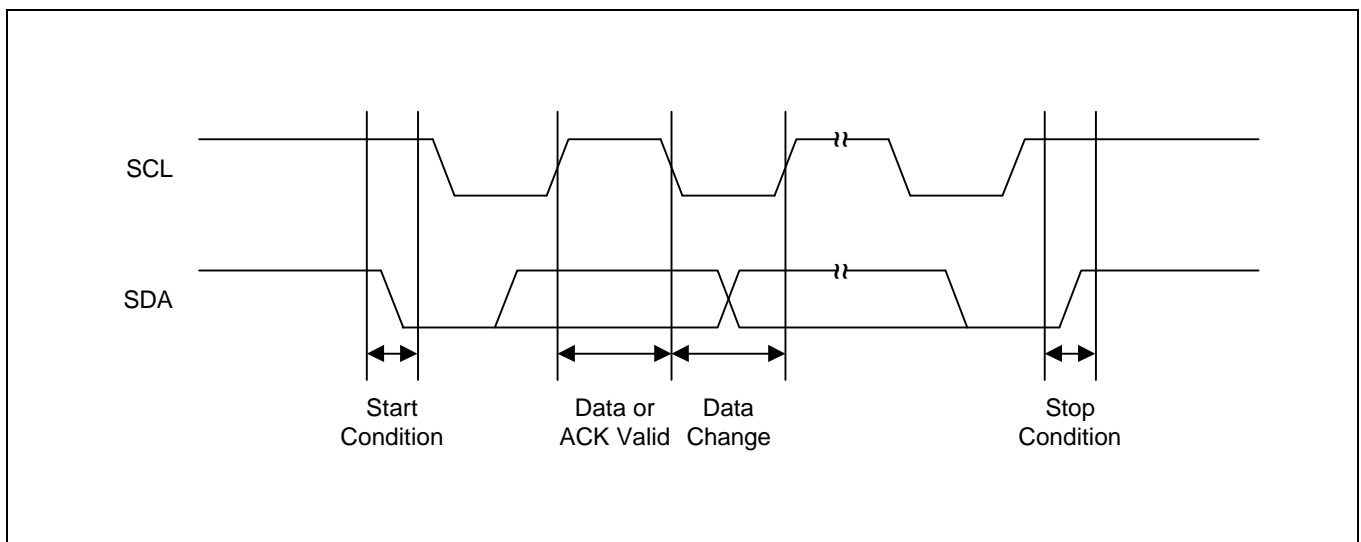

Figure 4-7. Data Transmission Sequence
- **Stop condition:** A stop condition is initiated by a Low-to-High transition of the SDA line while SCL remains High level. All bus operations must be completed by a stop condition (see Figure 4-7).